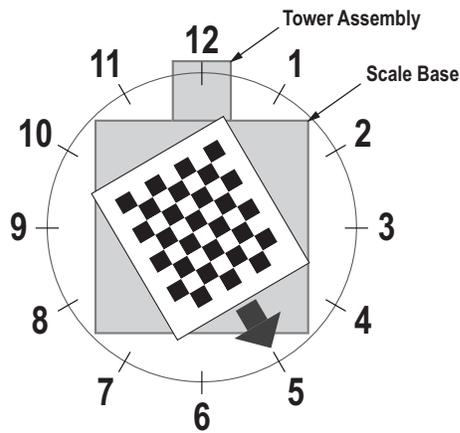

Figure 7-6. Rotate to 5 o'clock
- Align calibration object so the cross hairs are centered. Rotate the calibration object to 5 o'clock with the tower assembly being at 12 o'clock (Figure 7-6).